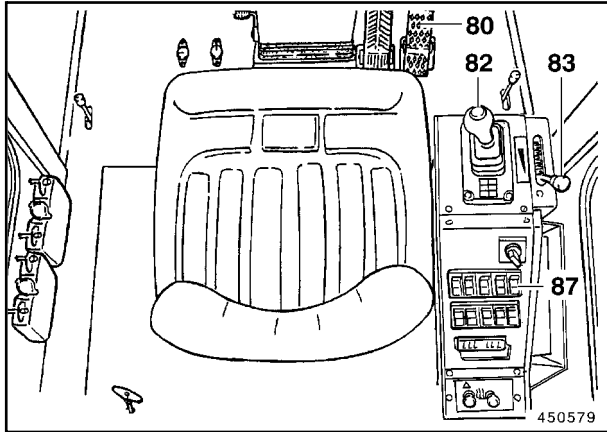

Fig. 1
The engine speed can be adjusted continuously with pedal (80, Fig. 1) and with hand throttle (83).